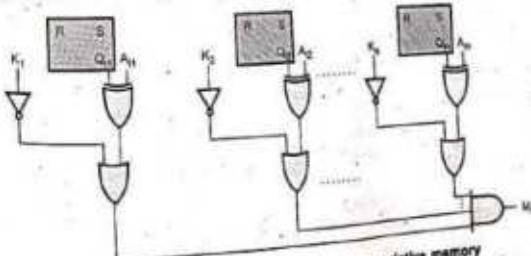

Fig. 7.9.4 Match logic for one word of associative memory
- The Fig. 7.9.4 shows the match logic for each word. The cell bit ( $Q_i$ ) is compared with the corresponding argument bit with EX-NOR gate. EX-NOR gate gives valid output logic 1 only when its inputs are same. The output of EX-NOR gate is valid only when the corresponding bit in key register is logic 1. This condition is